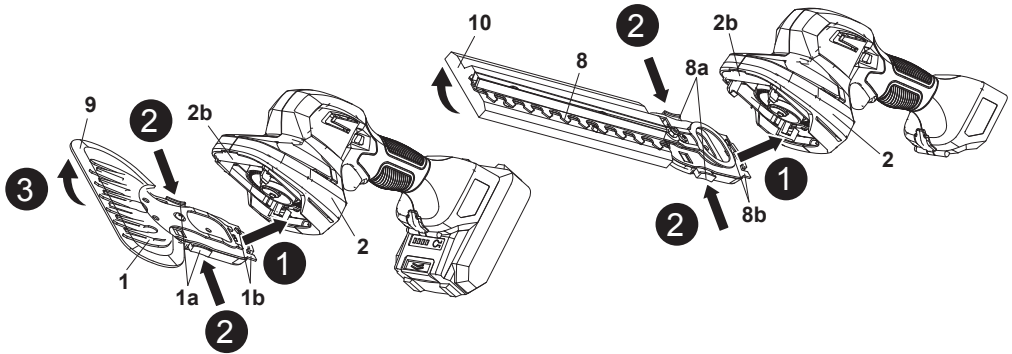

Fig. 2
1. Align and insert the two locating pins (1b / 8b) to the two slot of motor unit (2) (Fig. 2, step 1).
3. Press both release buttons (1a / 8a) and hold them in position (Fig. 2, step 2), then push the blade (1 / 8) onto the motor unit (2) until it engages with an audible click (Fig. 2, step 3).
4. Release both release buttons (1a / 8a) afterward. Ensure that the two release buttons (1a / 8a) are securely locked on the motor unit (2). Gently pull on the fitted blade to ensure it is secure.